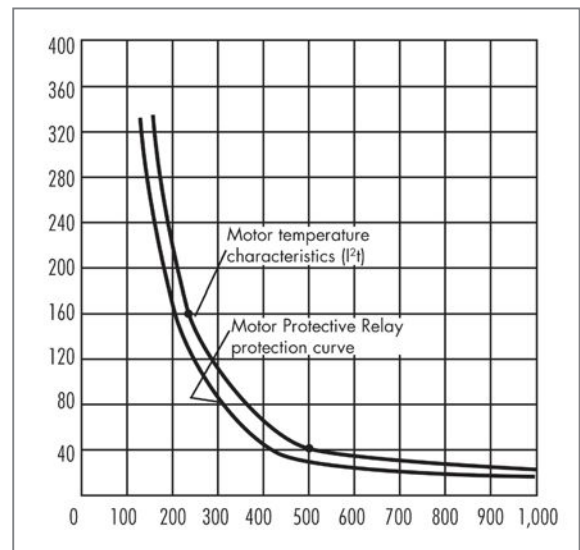

Figure 1: Thermal Damage Characteristic
3. D is probably the best answer, but modern microprocessor relays generally have start limitations, thermal algorithms more sophisticated than simple thermal memory, RTDs that provide temperature limits as well as biasing of the thermal algorithm, negative sequence current calculations that alter the overload point, and other protection functions. The I^2t (thermal) characteristic applies to almost any current-based protective relay. Figure 1 shows a typical thermal damage/limit characteristic curve. Any time-current that exceeds the thermal damage characteristic will cause some thermal damage. This damage is cumulative and will add to any previous thermal degradation. Eventually the insulation becomes brittle and will fail due to electrical or mechanical forces.